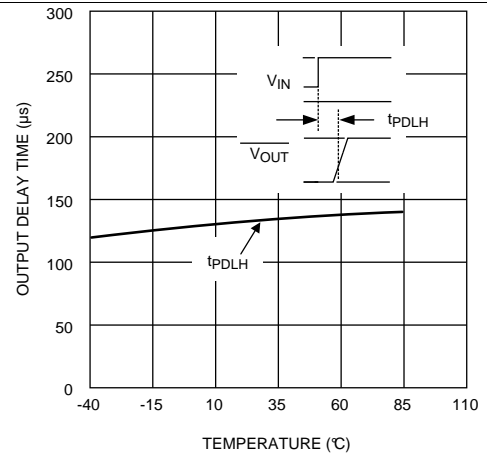

Figure 4. Propagation Delay Time (t_{PDLH}) vs Temperature
* See Figure 4 for tPDHL values